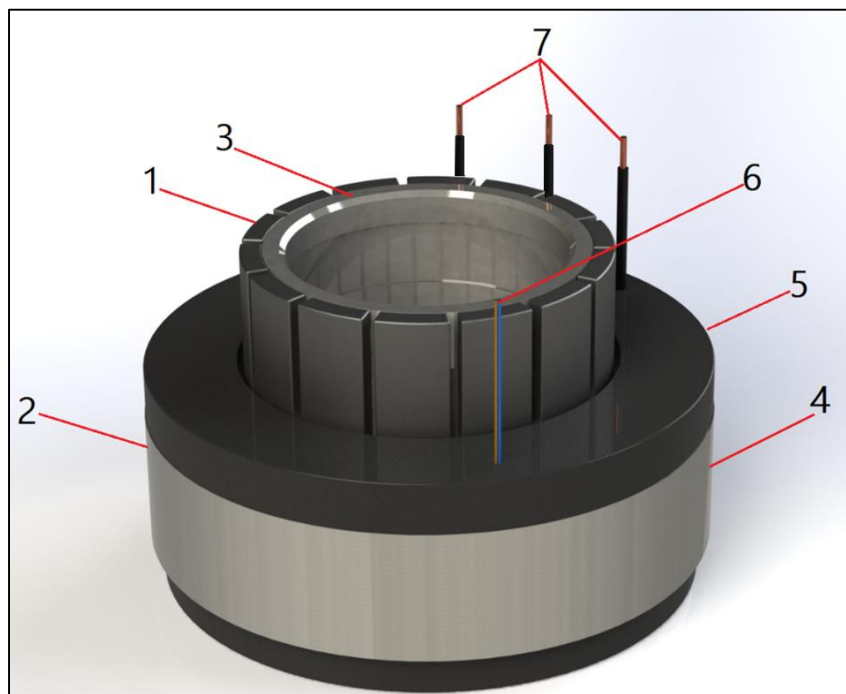

Figure 1-1: Rotor and stator assemblies with cable outputs
Using cable output (6) (see **Figure 1-1**), you can connect the thermistor to a controller. The controller uses the thermistor readings to prevent overheating, cutting the motor off in case the maximum temperature setting is exceeded.